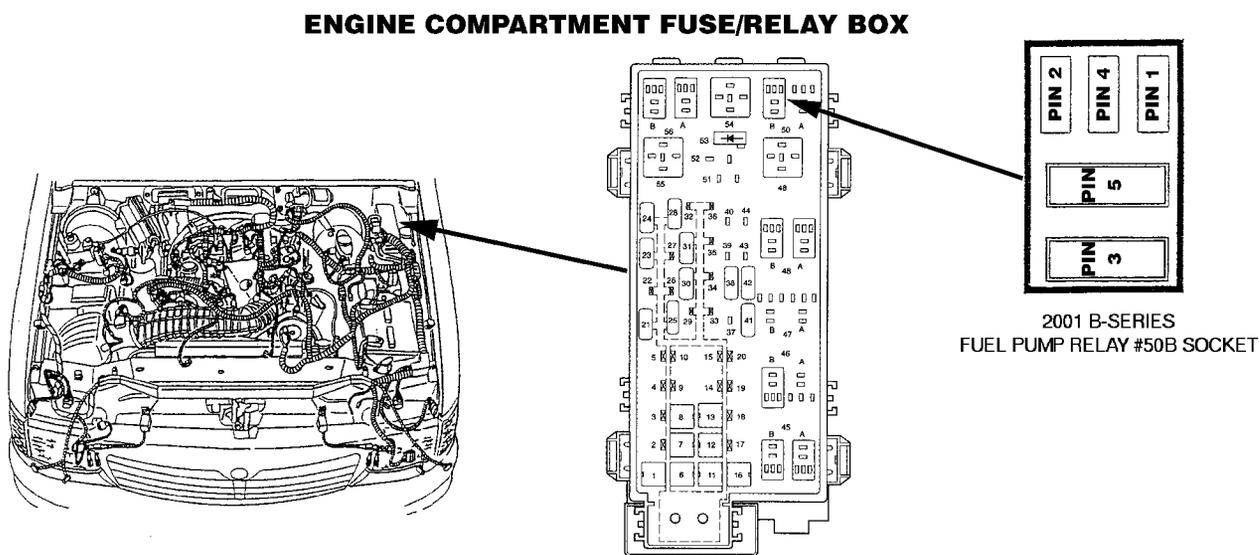

Figure MA014-9
3. Locate engine compartment fuse/relay box at left rear corner of the engine compartment near the driver side hood hinge. Refer to the fuse and relay box diagram (Figure MA014-9).